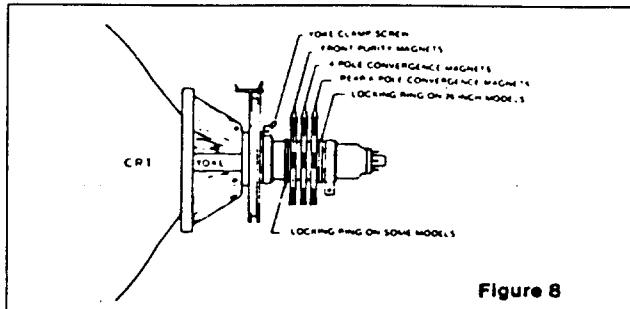

Figure 8
1. Loosen yoke retaining clamp (Fig. 8), remove adhesive material fixing wedges to CRT. Remove wedges completely and clean off dried adhesive from picture tube and wedges.
**NOTE:** Static convergence is achieved by four magnets located on the neck, nearest the base of the picture tube, Figure 8. The middle pair of magnetic rings are adjusted to converge the blue and red cross hatch lines. The rear pair of convergence rings (closest to the base of the picture tube) are adjusted to converge the magenta (blue/red) to the green cross hatch lines. Dynamic convergence is achieved by tilting the deflection yoke up-down and left-right.